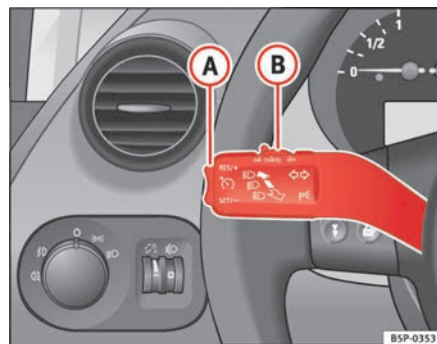

Fig. 147 Turn signal and main beam headlight lever switch and rocker switch for the cruise control
- Press the upper part **RES/+** of the rocker switch ⇒ fig. 147 **A** to increase the speed. The vehicle will continue to accelerate for as long as you keep the rocker switch pressed. When you release the switch, the new speed is stored.
Control of the set speed is switched off if you reduce speed by depressing the brake pedal. You can reactivate the control by pressing once on the upper part of the rocker switch **RES/+** ⇒ page 176, fig. 147 **A**.